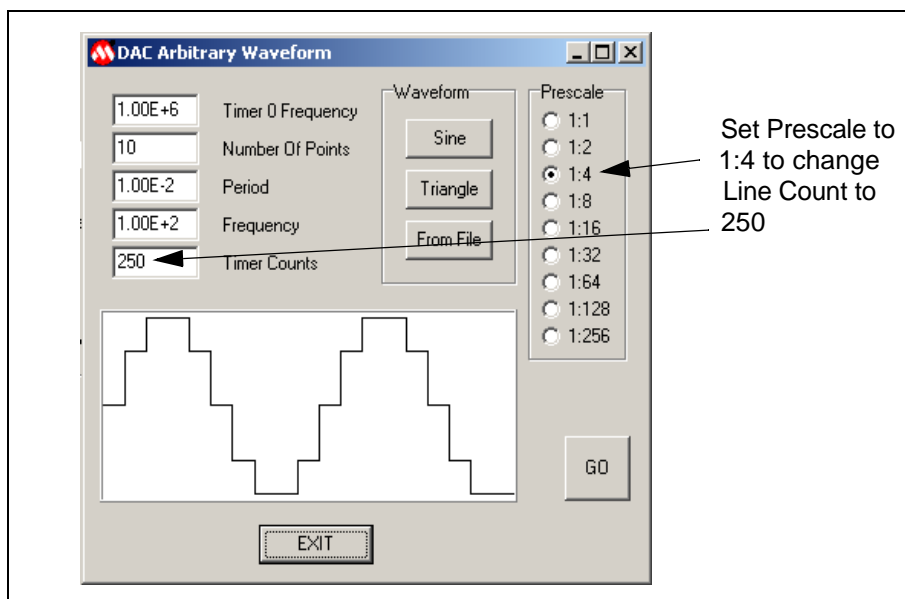

Figure 3.10: Setting the Prescaler
2. Select the Memory tab of the PICDEM™ MSC1 control panel. The Configuration Word section of the panel is now active, as shown in Figure 3.10.